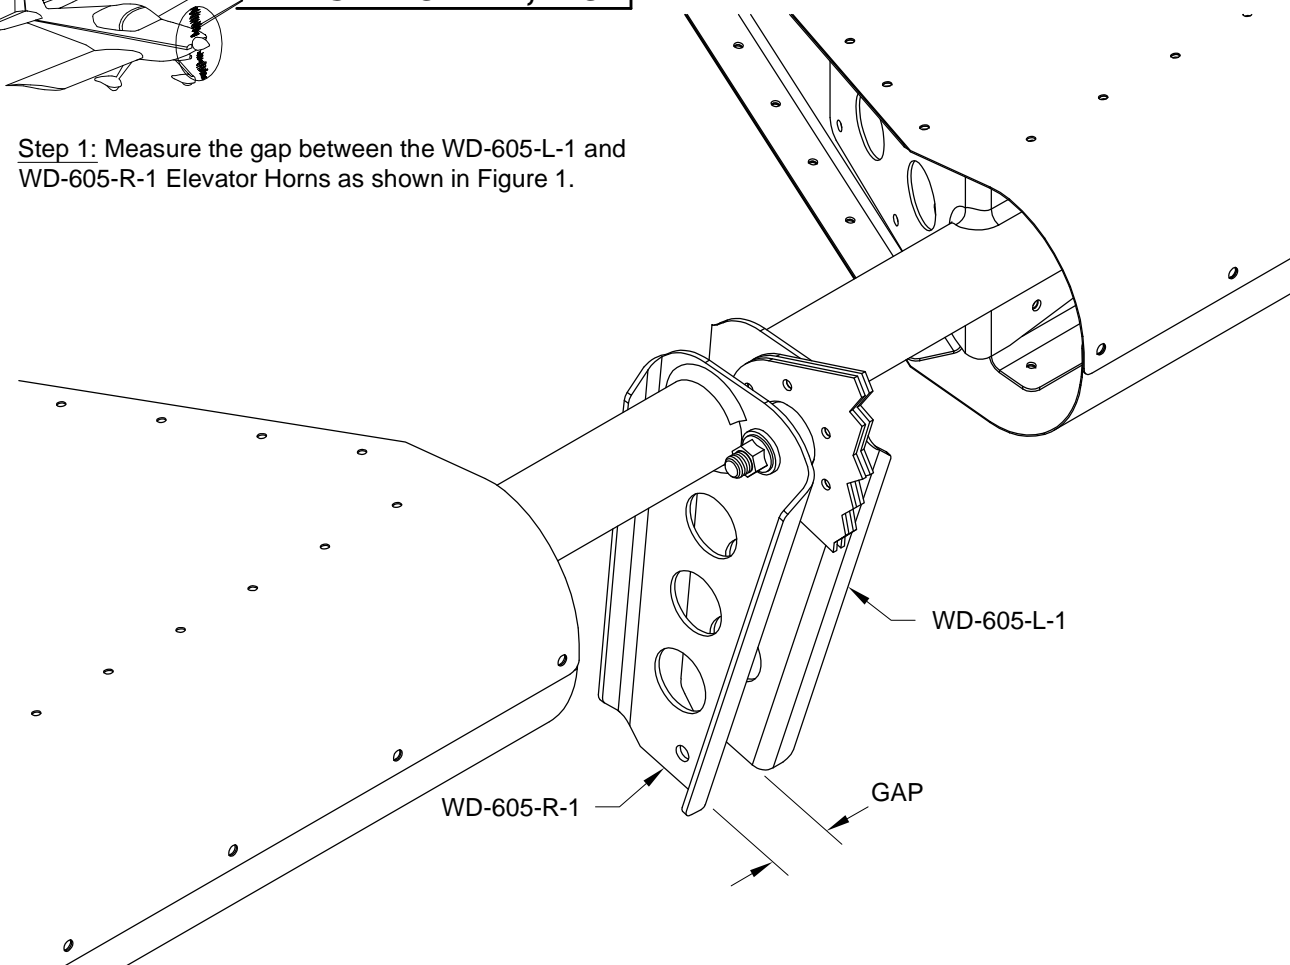

FIGURE 1: MEASURE ELEVATOR HORN GAP
Step 1: Measure the gap between the WD-605-L-1 and WD-605-R-1 Elevator Horns as shown in Figure 1.